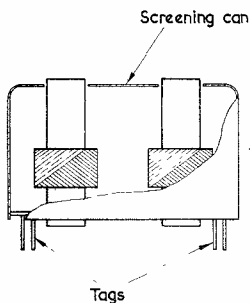

Fig. 174. A typical construction for the transformer of Fig. 172
The transformer of Fig. 172 may be assembled with both coils on a common former, as in Fig. 169, but it is much more common to use two formers mounted parallel to each other, as in Fig. 174. It will be noted that this is basically the same construction as was used in the transformer illustrated in
I.F. transformers intended for operation at 10.7 Mc/s may also employ the construction of Fig. 174.